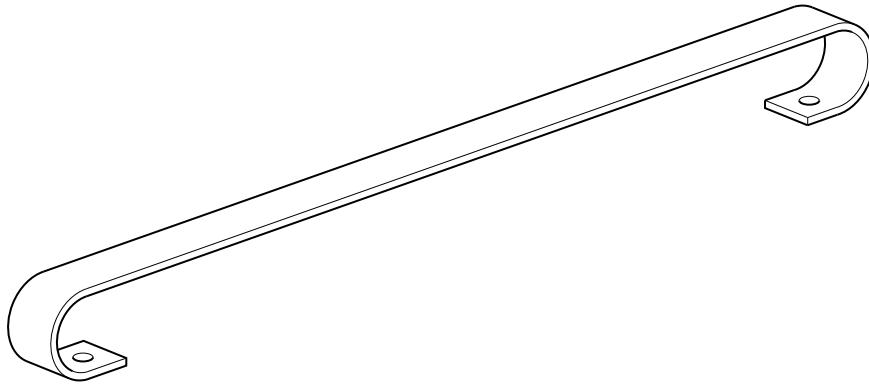

Fig. 3
(e) Fig. 3 shows one of the seat rails of the metal bench.
(i) State a **suitable specific metal** for the seat rail shown in Fig. 3.
- (ii) Describe in detail how the seat rail shown in Fig. 3 would be manufactured as a **batch of 5,000**.